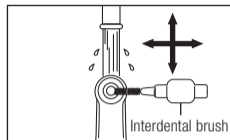

Fig. 11
- 2 Clean around the bur insertion hole for 15 seconds or more, using an interdental brush (wire thickness 0.7mm) that conforms to size 4 in ISO 16409. (Fig. 11)